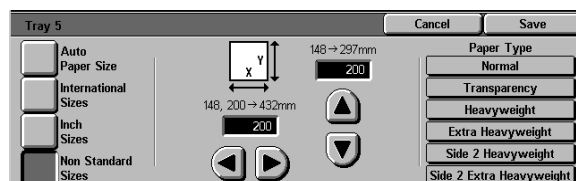

Figure 30: Tray 5 Non Standard Sizes
- Touch **Non Standard Sizes** and enter the X (width) and Y (length) dimensions by using the arrows, as shown in Figure 30.